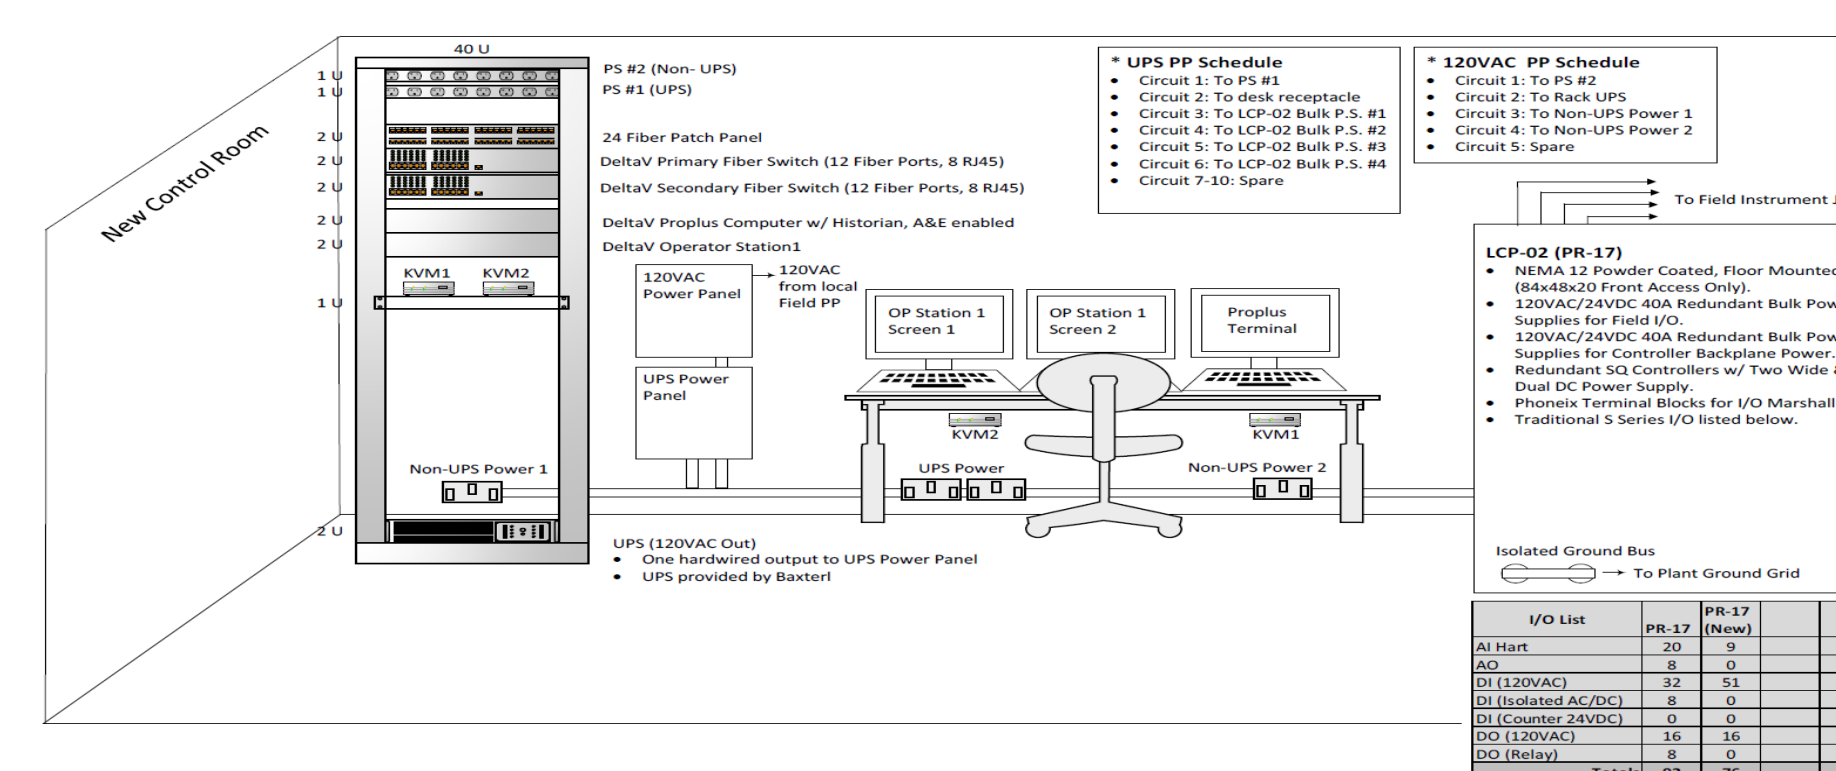

Figure 2: EOA Control Room System Design
- Control System Design. Figure 2 shows a proposed concept design.